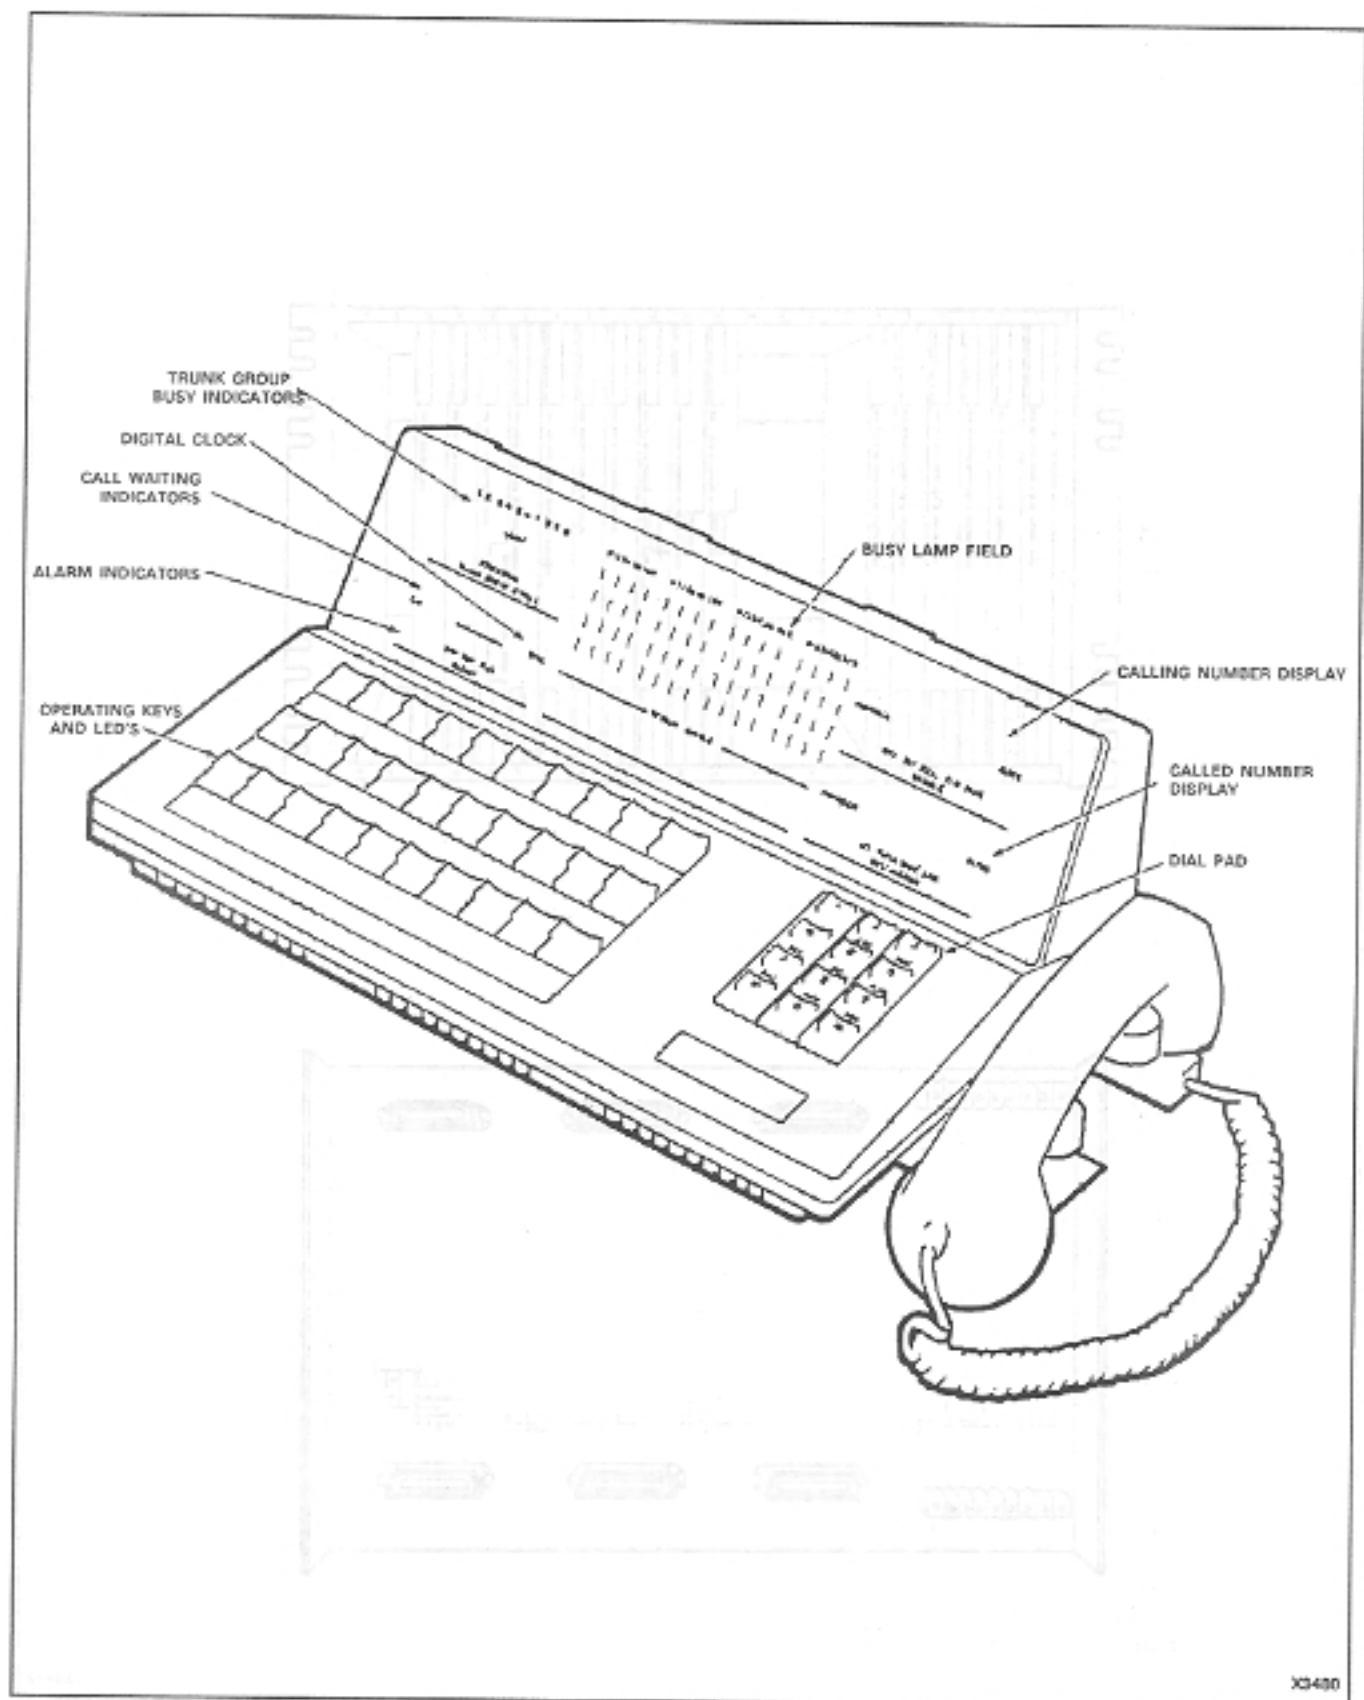

Fig. 3-1 Attendant Console
3.02 Each attendant console (Fig. 3-1) is equipped with a number of maintenance aids and keys which are associated with maintenance functions. The following paragraphs describe the function of each maintenance-associated LED and key.